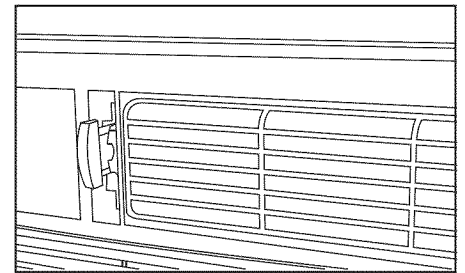

Fig. 3 (VENT OPEN)
- Exchange air from the room - Vent Open (see Fig. 3)